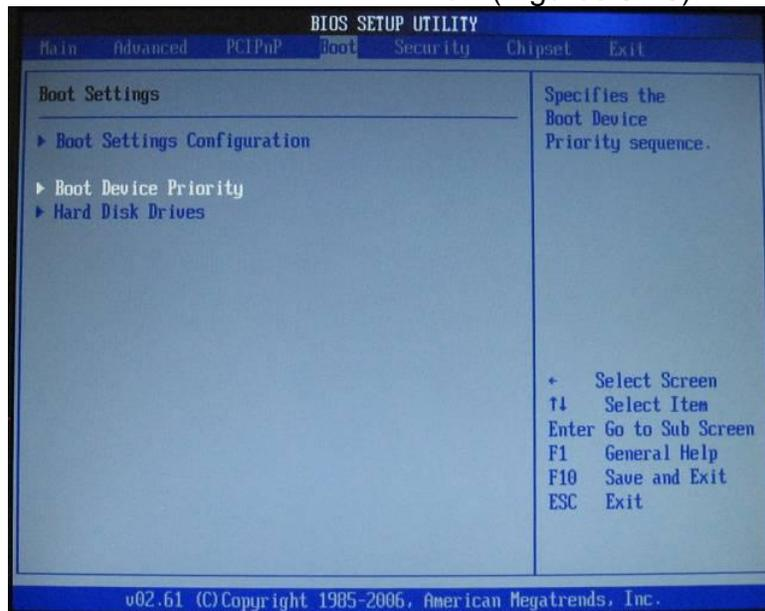

Figure 8-48 Boot Device Priority Screen
38. On the **Boot Settings** screen, scroll down and select **Boot Device Priority**. Press **Enter**. (Figures 8-48).